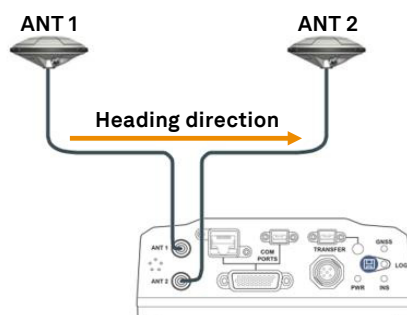

Figure 1: Heading direction, computed from Ant 1 to Ant 2
- Place both antennas as far from each other as possible. The GNSS heading direction is computed from Ant 1 to Ant 2 (see Figure 1), with the accuracy of the solution largely determined by the distance (or baseline) between both antennas. The larger the baseline, the better the heading precision will be. VERIPOS recommend a minimum baseline of two metres.